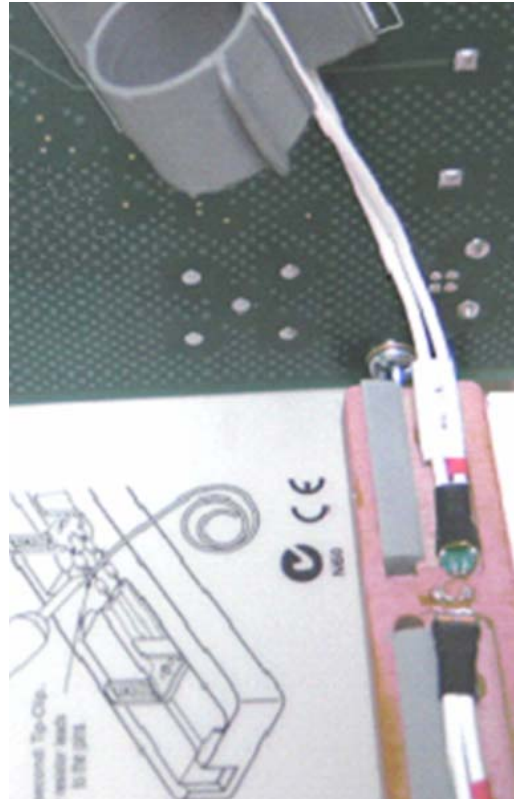

Figure 6: Two P75TLRSTs Soldered to the Solder Pins
6. Solder the second P75TLRST solder tip to the solder pins. Make sure the second solder tip is inverted because the polarities will need to match for proper deskew. The red band on the solder tips should be located on the same side as shown in Figure 6.